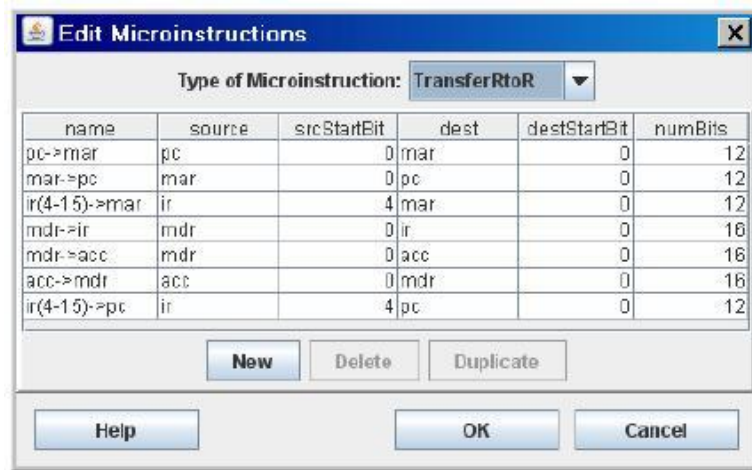

Figure 3: The dialog for editing microinstructions.
2. Choose “TransferRtoR” in the popup menu at the top of the dialog that appears (see Figure 3).
5. Create the remaining 6 transfer microinstructions in the Wombat1 by adding new microinstructions in the same manner (see Figure 3).